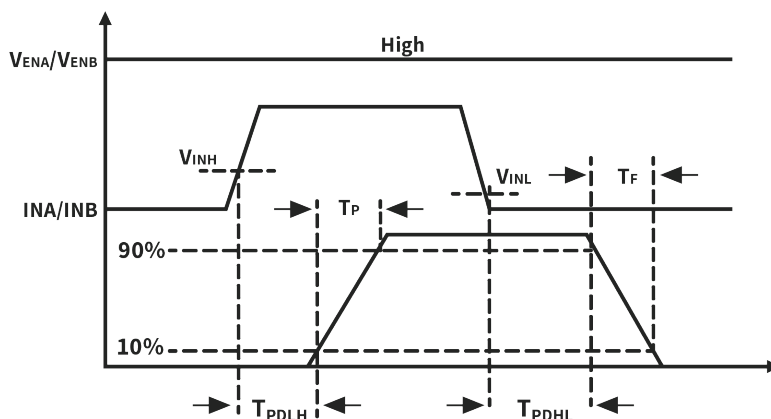
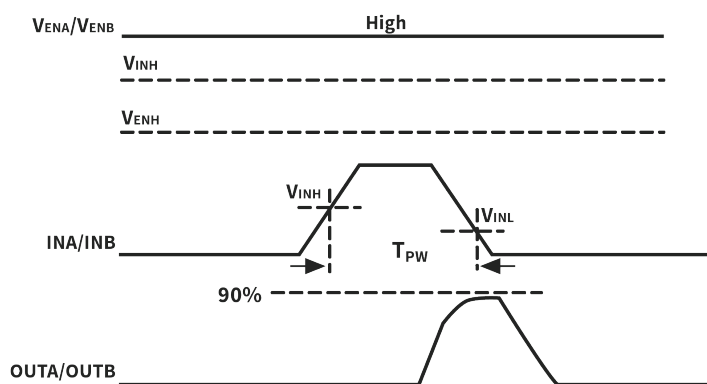
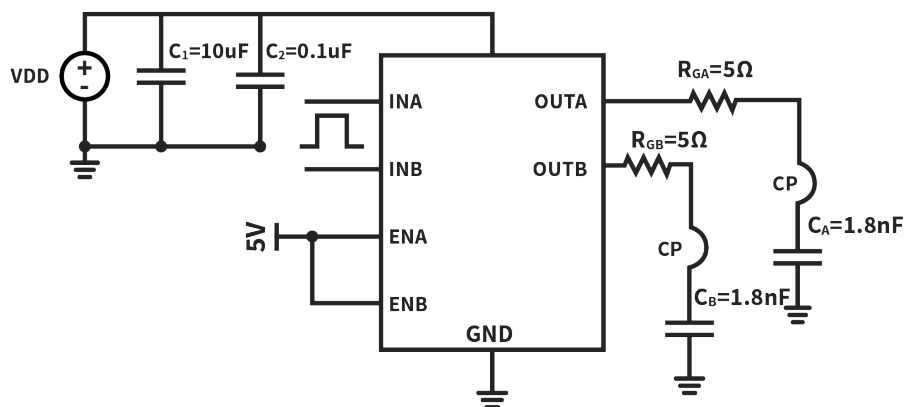

Figure 5.1 Propagation Delay, rise and fall time
Figure 5.2 Minimum input pulse width that changes the output state
Figure 5.3 Test circuit diagram
1) See the timing diagrams in Figure 5.1
2) See the timing diagrams in Figure 5.2
Figure 5.1 shows the definition of propagation delay, rise and fall time, while the minimum input pulse width that changes the output state in depicted in Figure 5.2. Associated test circuit diagram for specification measurements is shown in Figure 5.3.